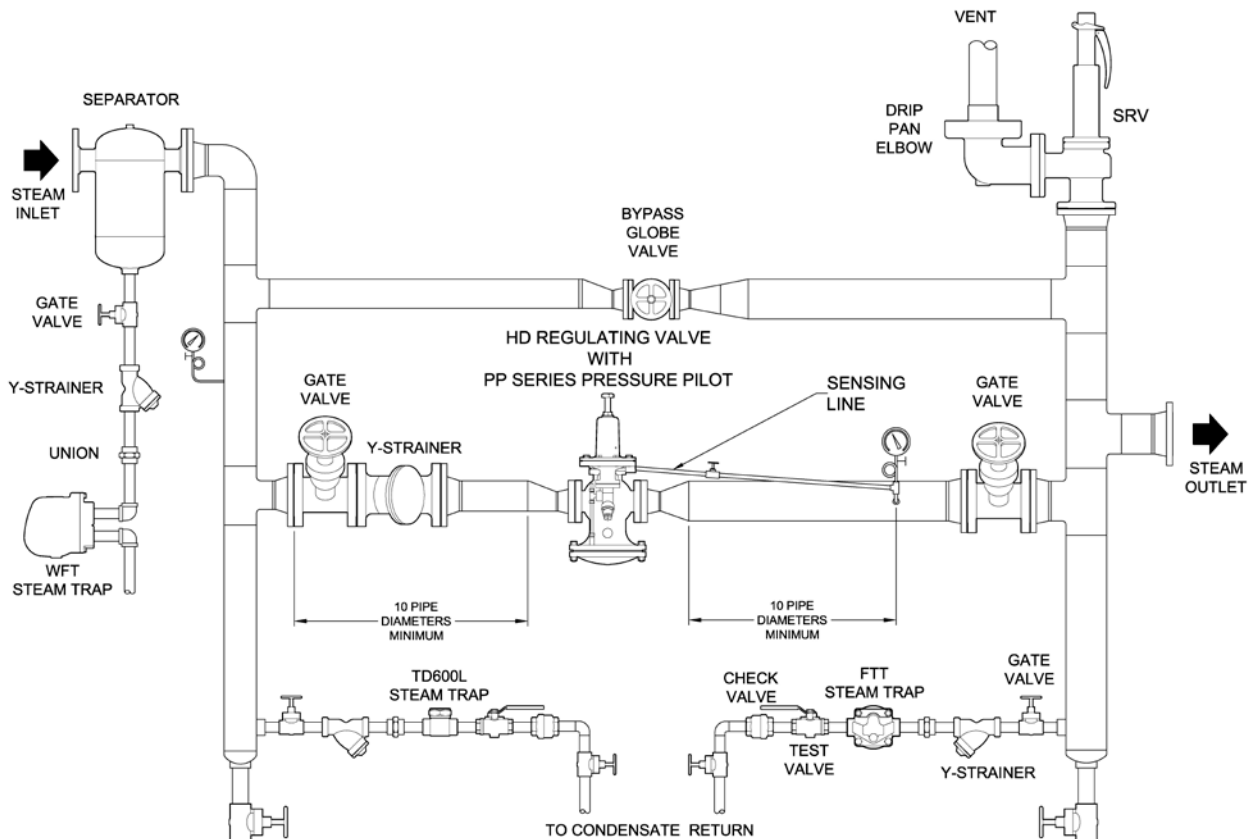

Figure 3: Recommended Single Stage PRV Station Installation
1. Make sure steam supply is safely shut off. Fig. 3 piping hookup is a typical installation to be used as a guide for planning piping.
8. By-pass connections of same size as pressure reducing valve is recommended. (See Fig. 3) Use gate valves before and after pressure reducing valve and globe valve as by-pass valve.